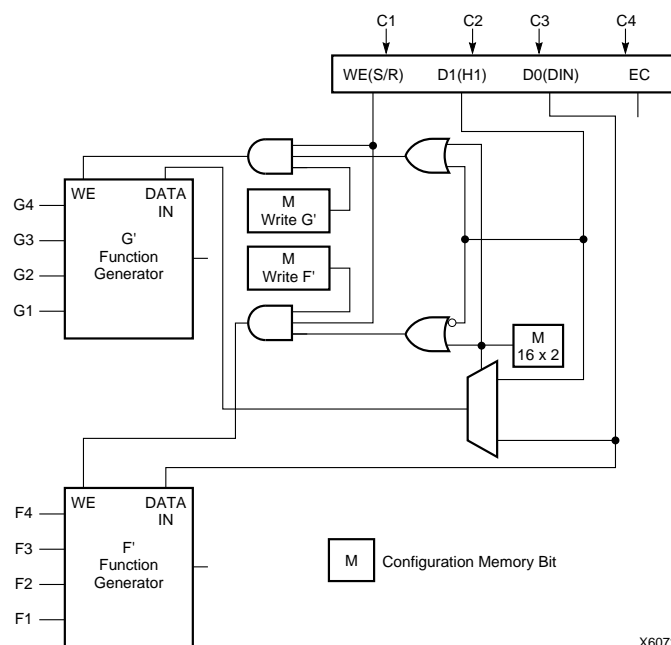

Figure 3. CLB Function Generators Can Be Used as Read/Write Memory Cells
An optional mode for each CLB makes the memory look-up tables in the F' and G' function generators usable as either a 16 x 2 or 32 x 1 bit array of Read/Write memory cells (Figure 3). The F1-F4 and G1-G4 inputs to the function generators act as address lines, selecting a particular memory cell in each look-up table. The functionality of the CLB control signals change in this configuration; the H1, DIN, and S/R lines become the two data inputs and the Write Enable (WE) input for the 16 x 2 memory. When the 32 x 1 configuration is selected, D1 acts as the fifth address bit and D0 is the data input. The contents of the memory cell(s) being addressed are available at the F' and G' function-generator outputs, and can exit the CLB through its X and Y outputs, or can be pipelined using the CLB flip-flop(s).